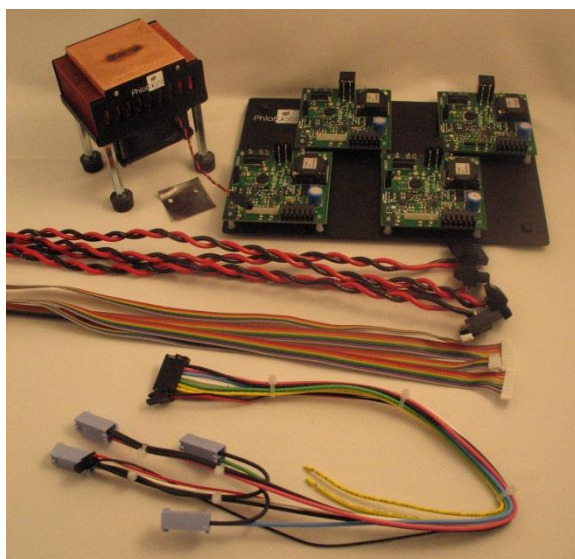
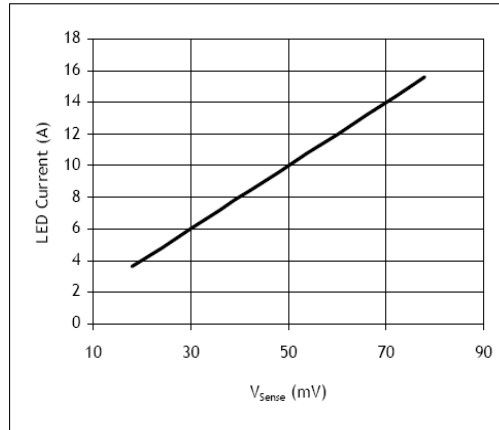

Figure 1: DK-414N-4 Development Kit Contents
Figure 11: LED Current as a function of V_{sense}
The DK-414N-4 Development Kit includes the following components, as shown in Figure 1:
3. Use the jumper provided with the driver board to short signal pins 2 and 3 (see Figure 1 and Table 5). These pins correspond to Analog ADJ and POT; shorting them enables the on-board potentiometer. Alternatively, the jumper can be removed and signal cable can be used to short the Analog ADJ and POT pins.
2. To determine the current through the LED, measure the voltage across the sense resistor test studs placed to the left and right of “R9” (see Figure 1). Figure 11 shows the relationship between the sense resistor voltage (V_{sense}) and the LED current, I_{LED} , which is also calculated using: